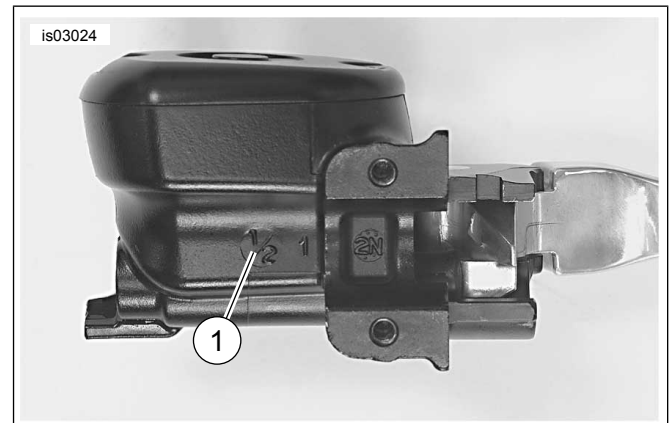

Figure 1. Verifying Front Brake Master Cylinder Bore Size (Single Disc Master Cylinder Shown)
1. See Figure 1. The bore size is cast into the side of the master cylinder body facing the handlebar.